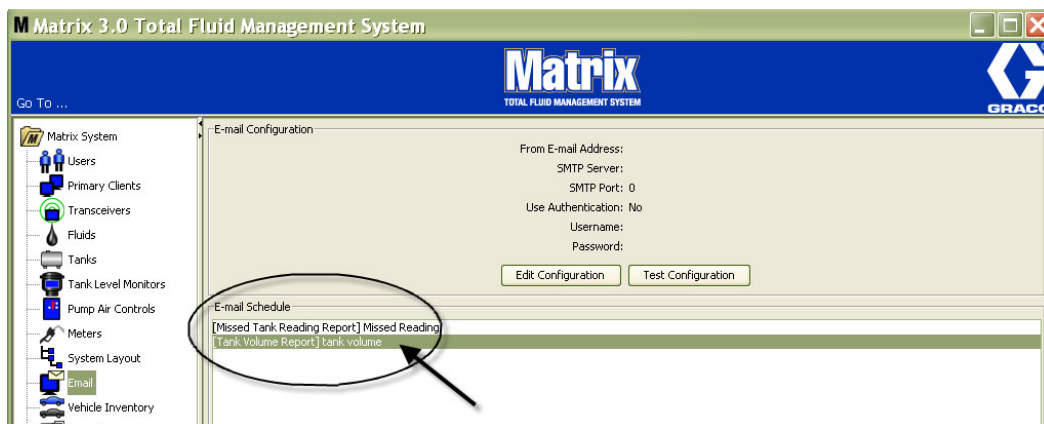

FIG. 144
3. The e-mail events you created are shown in the E-Mail Schedule portion on the main E-Mail Configuration screen as shown in FIG. 144.